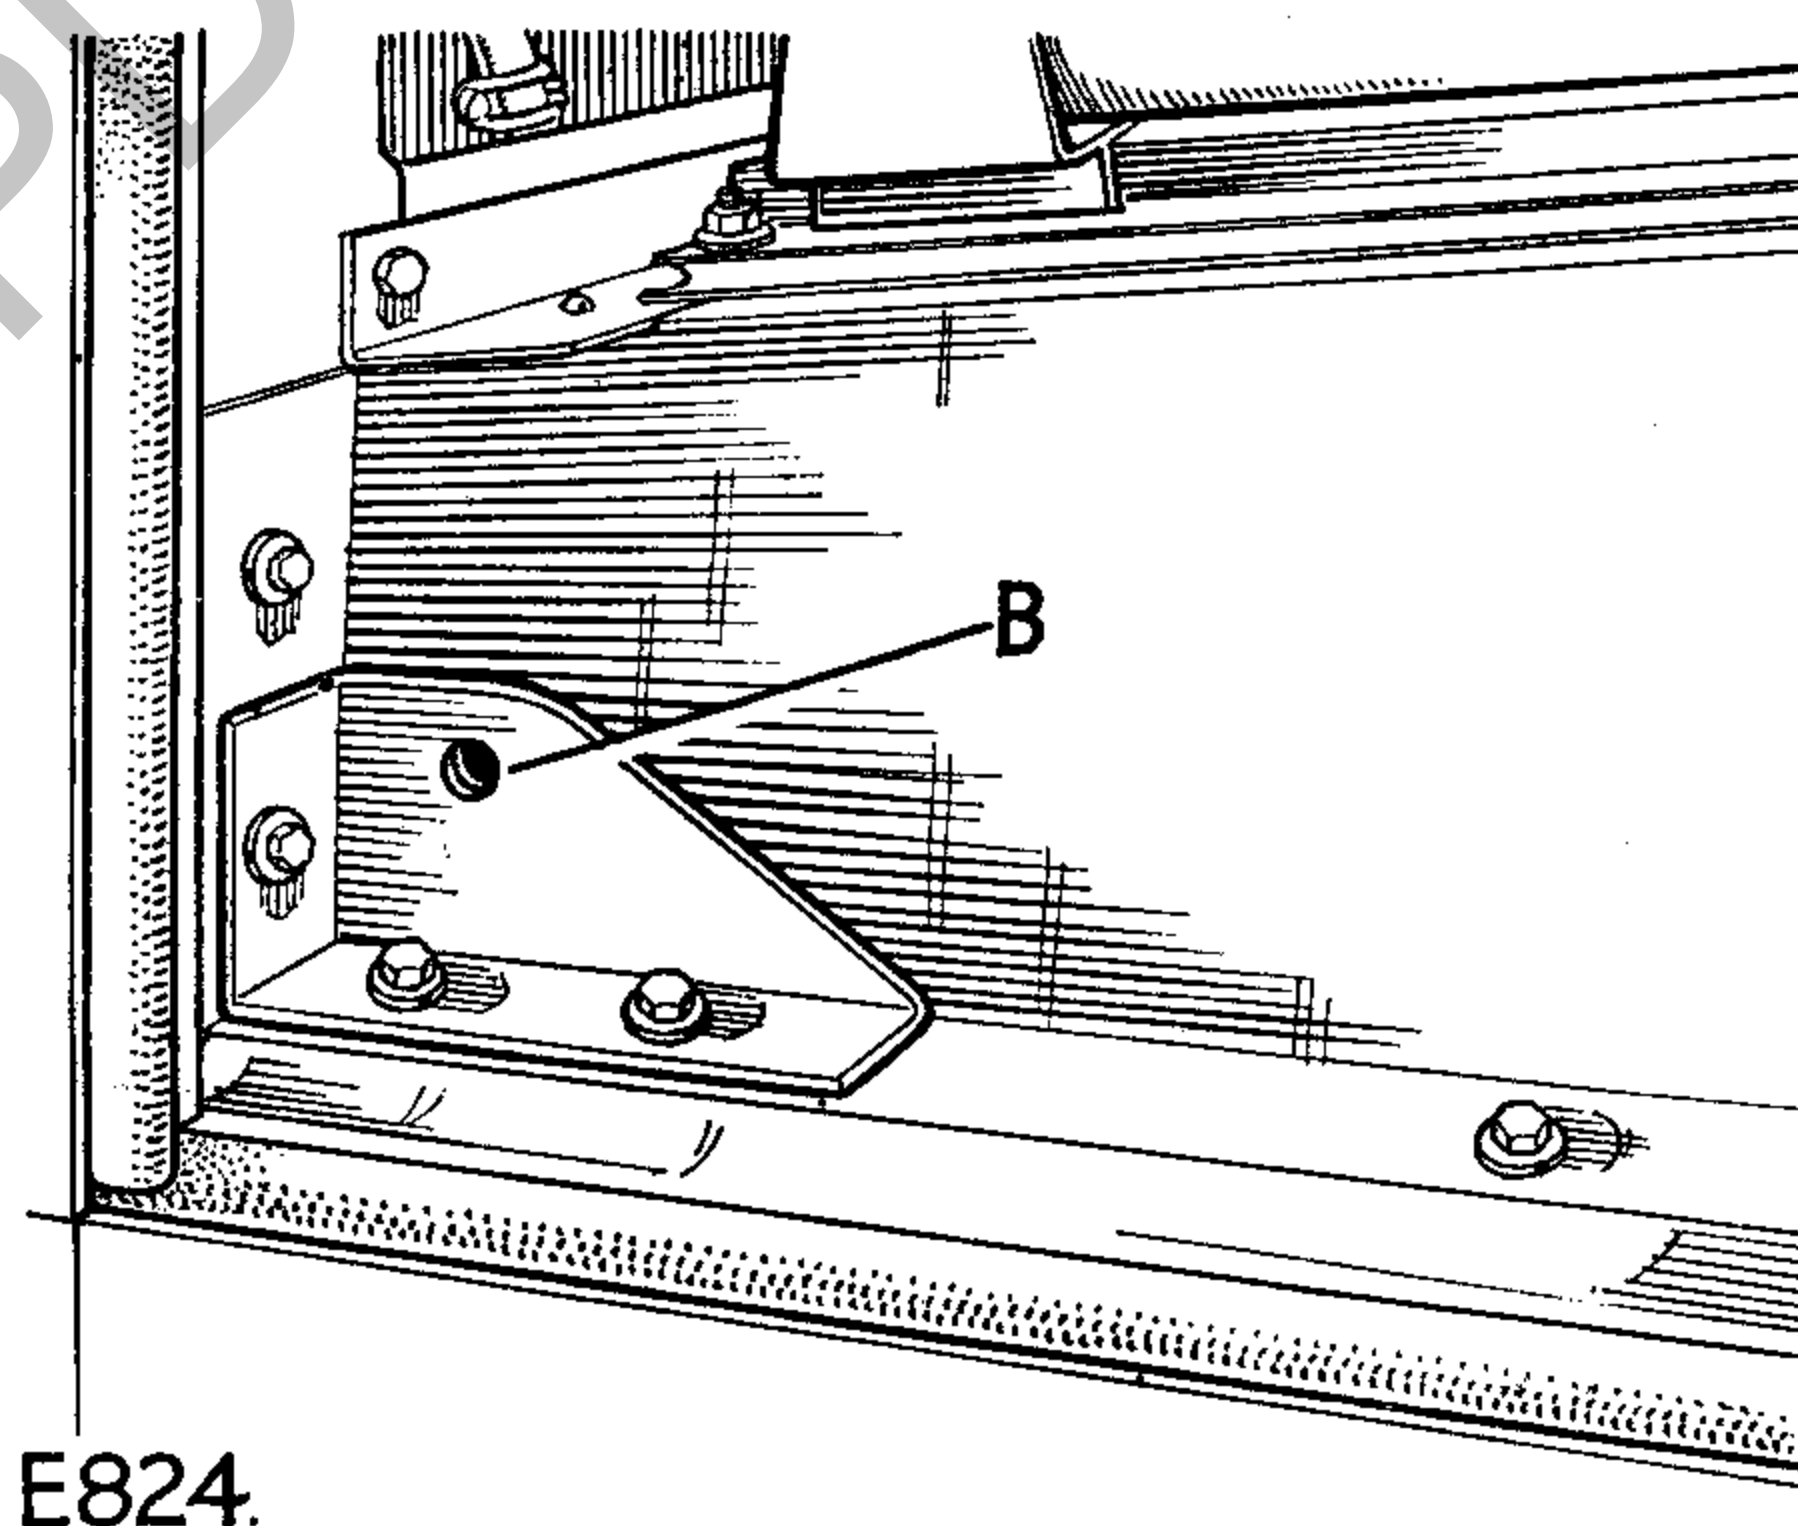

Fig. 1. Sill gusset in position.
2. Position the sill gusset R.H. or L.H. as required into the corner and secure, using the original body fixing bolts as shown in Fig. 1.